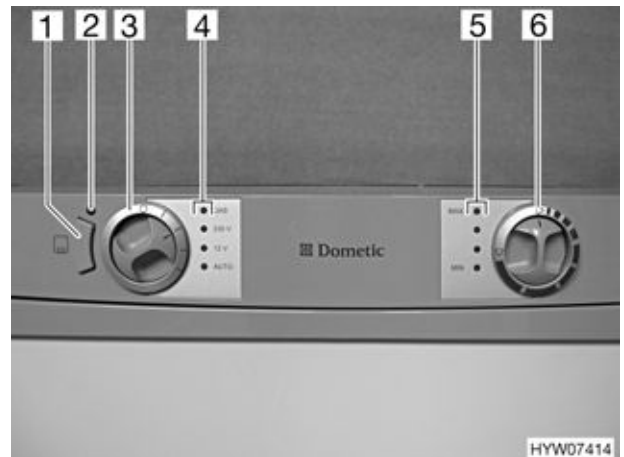

Fig. 148 Operating controls for refrigerator
High external temperatures and high humidity can cause drops of water to form on the metal frame of the freezer compartment. This is why the refrigerator is equipped with a frame heater for the freezer compartment. If the temperature and humidity are high, switch on the frame heater by pressing the button (Fig. 148,1). This prevents corrosion. If the frame heater is switched on, the indicator lamp (Fig. 148,2) will be lit.
If the 240 V supply is disconnected and the vehicle's engine is not running the "AES" selects the gas supply. When selecting gas operation the ignition fuse is opened automatically so gas can get into the burner. At the same time the electronic ignition is activated. If the gas flame is extinguished, e. g. by blast of wind, the ignition is activated immediately and re-ignites the gas. When the gas operation is faulty, the "GAS" indicator lamp (Fig. 148,4) flashes red.
- ▷ Open flames are prohibited at petrol stations. If the stop takes longer than 15 minutes, the refrigerator has to be turned off at the energy selector switch (Fig. 148,3).
When turned on the first time the refrigerator automatically selects the middle thermostat position. This position can be adjusted manually by using the control knob (Fig. 148,6). The indicator lamps (Fig. 148,5) show the selected thermostat position. The refrigerating temperature for the three types of energy is set with the control knob. It takes a few hours till the refrigerator reaches its normal operating temperature. When changing over the operation mode the thermostat setting will be maintained. The refrigerating temperature is retained regardless of the type of power being used.
- Select the energy type with the energy selector switch (Fig. 148,3). The respective indicator lamp (Fig. 148,4) lights up green.
- Adjust refrigerating temperature with the control knob (Fig. 148,6). The indicator lamps (Fig. 148,5) show the selected thermostat position.
When the gas operation is faulty, the "GAS" indicator lamp (Fig. 148,4) flashes red.
- Turn the energy selector switch (Fig. 148,3) to "O". No indicator lamp (Fig. 148,4) is lit.